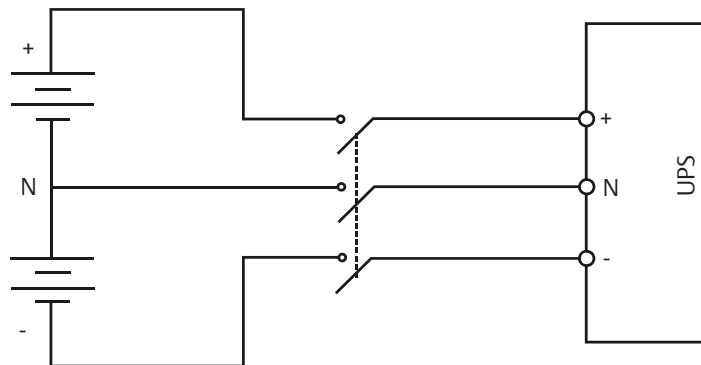
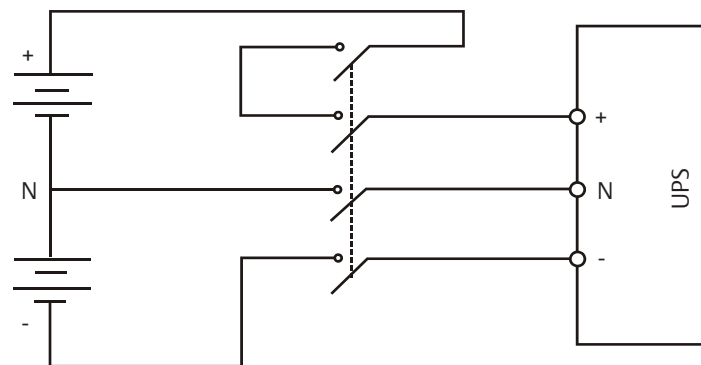

Figure 6-4 Connections between battery, BCB and UPS (3 wires at battery side, battery consisting of 30 to 34 cells)
Figure 6-5 Connections between battery, BCB and UPS (3 wire at battery side, battery consisting of 36 to 40 cells)
2. If the external battery is configured to use CT wiring (that is, three wires will be led out from the battery side), it is recommended to use a 4P DC MCCB, with DC rated voltage of the breaker meeting 1-pole 250Vdc, 2-pole 500Vdc, 3-pole 750Vdc, and rated breaking capacity limit being 35kA. If the battery cell number ranges from 30 to 34, for cost-saving purpose, refer to Figure 6-4 for the connections between the battery, BCB and UPS. If the battery cell number ranges from 36 to 40, refer to Figure 6-5 for the connections between the battery, BCB and UPS.